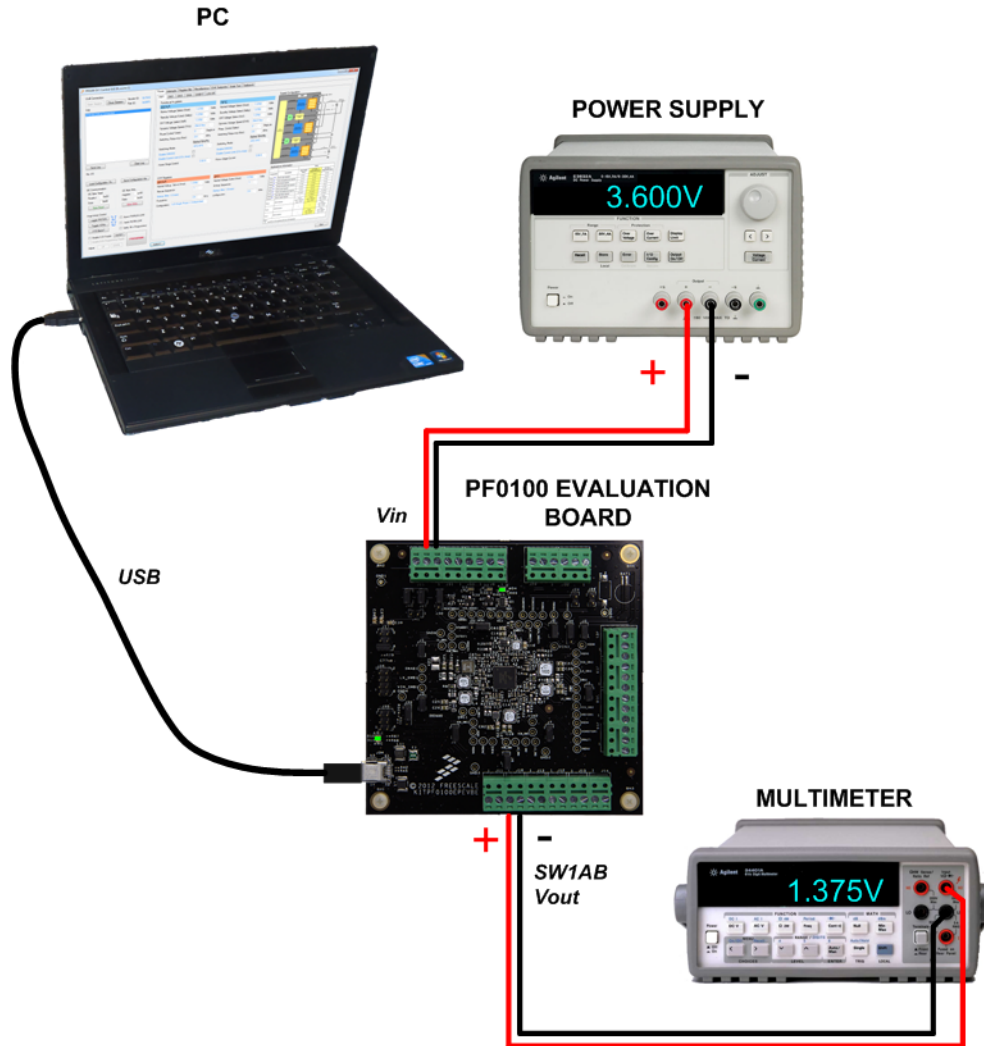

Figure 10. Evaluation Board Setup
6. Supply 3.6V to J25 of KITPFGMEVME and then connect the USB cable from the USB-MiniB port (J34) to the computer. See Figure 10 for the connection diagram.
Connect the power supply and the USB communication cables as shown in Figure 10. Voltmeters are optional but it are recommended in order to accurately verify that each one of the output supplies is providing the correct voltage level.